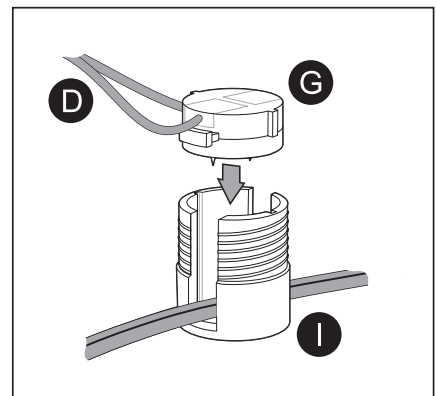

Fig. 6
4. Align the block (G) with branch cables (D) with the grooves in the base (I) and insert as shown (Fig.6).